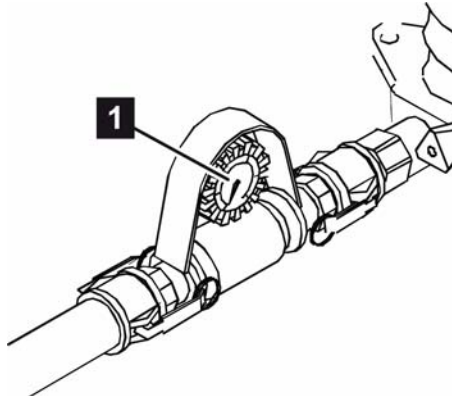

Fig. 61: Check mortar pressure
1. On the mortar pressure manometer (Fig. 61/1) check whether mortar pressure has dropped to 0 bar. If necessary, dissipate mortar pressure by opening all cocks on the sprayer.